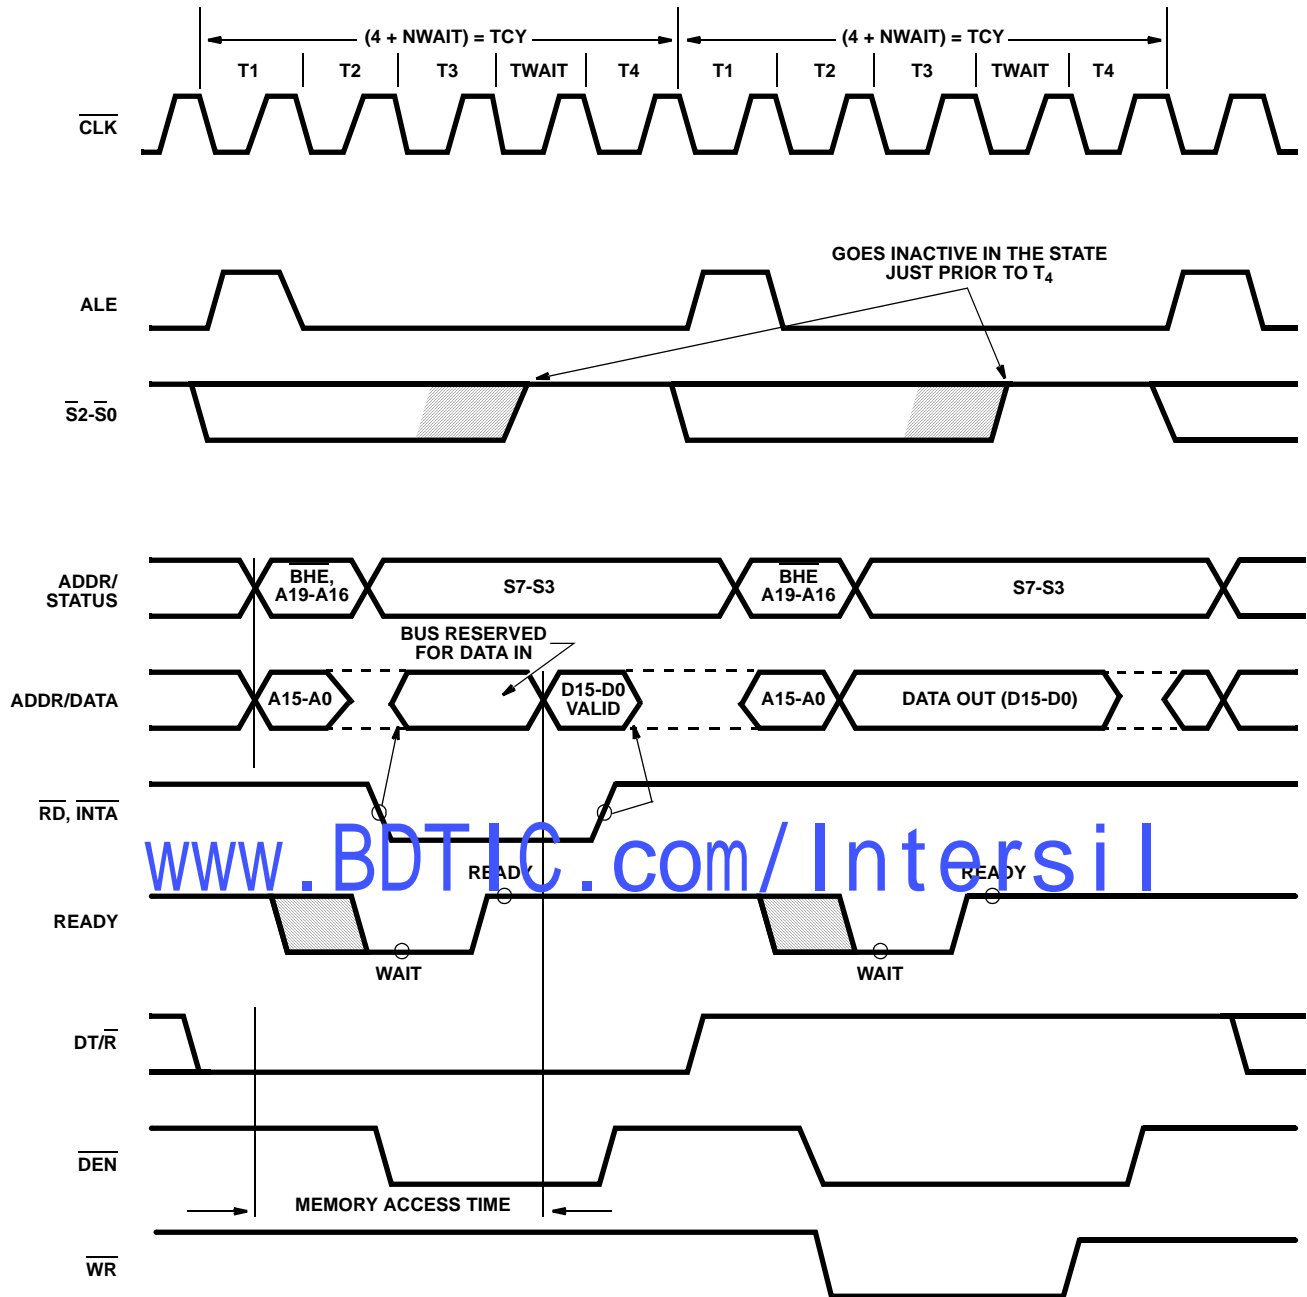

FIGURE 3. BASIC SYSTEM TIMING
Each processor bus cycle consists of at least four CLK cycles. These are referred to as T1, T2, T3 and T4 (see Figure 3). The address is emitted from the processor during T1 and data transfer occurs on the bus during T3 and T4. T2 is used primarily for changing the direction of the bus during read operations. In the event that a "NOT READY" indication is given by the addressed device, "Wait" states (TW) are inserted between T3 and T4. Each inserted wait state is the same duration as a CLK cycle. Periods can occur between 80C86 driven bus cycles. These are referred to as "idle" states (Ti) or inactive CLK cycles. The processor uses these cycles for internal housekeeping and processing.
Typical system configurations for the processor operating in minimum mode and in maximum mode are shown in Figures 6A and 6B, respectively. In minimum mode, the MN/MX pin is strapped to VCC and the processor emits bus control signals (e.g.  $\overline{\text{RD}}$ ,  $\overline{\text{WR}}$ , etc.) directly. In maximum mode, the MN/MX pin is strapped to GND and the processor emits coded status information which the 82C88 bus controller uses to generate MULTIBUS compatible bus control signals. Figure 3 shows the signal timing relationships.